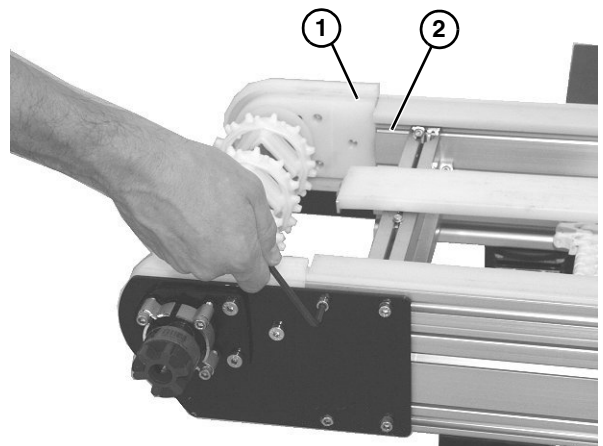

Figure 32
*When reinstalling the drive spindle tail assembly, the terminal assembly (**Figure 32, item 1**) should be flush with the conveyor frame (**Figure 32, item 2**).*